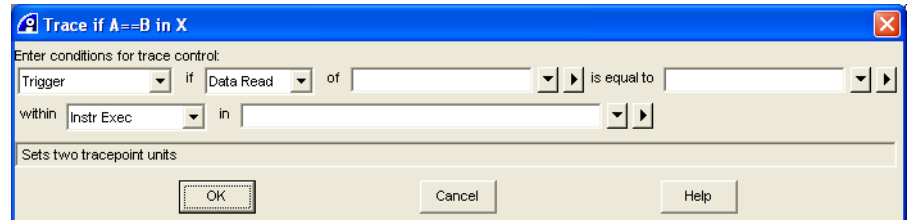

Figure 7-11 Trace if A==B in X dialog box
1. Select **Debug** → **Tracepoints** → **Trace if A==B in X...** from the Code window main menu to open the Trace if A==B in X dialog box. Figure 7-11 shows an example: